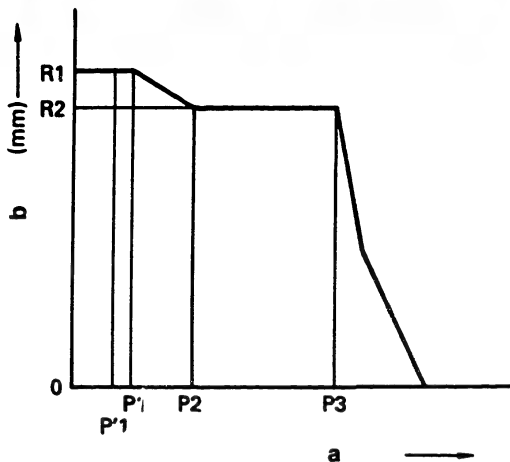

Fig. 82
- 2. When the performance of the pneumatic governor is as shown in Fig. 82:
- a. Maintain pump speed at 1,000 rpm and reduce the pressure of the pneumatic governor's negative pressure chamber to P'1 mmAq (Fig. 82).